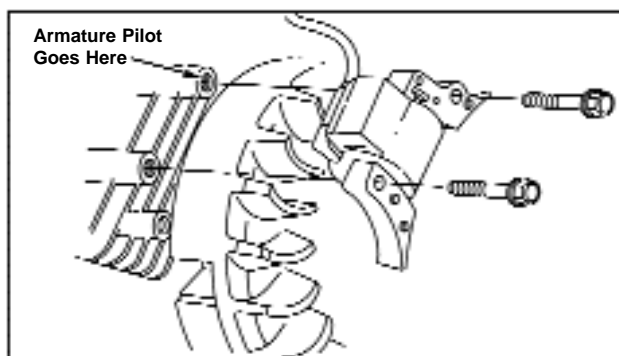

Figure 73 - Installing Armature
3. Install armature and mounting screws. See Figure 73.